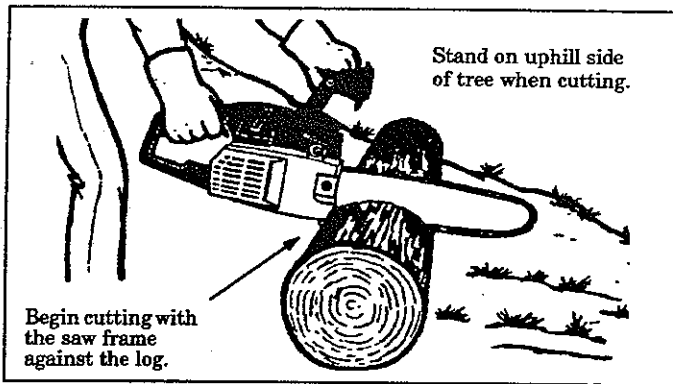

Figure 13
- b. **Begin cutting with the saw frame against the log.** Figure 13 .